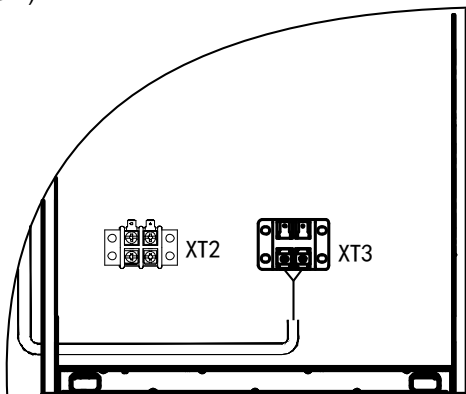

Fig.3-2 Water flow ON/OFF signal input
- 2) The signal wire should apply 0.75mm² shielding wire, and connected to the XT2 terminal in the electric control box (see Fig.3-2).